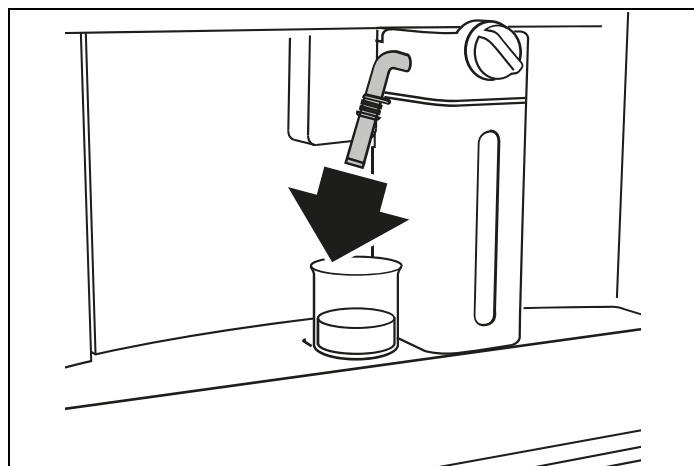

Fig. 36
- 2) Place a cup or other recipient under the frothed milk spout (Fig. 36);